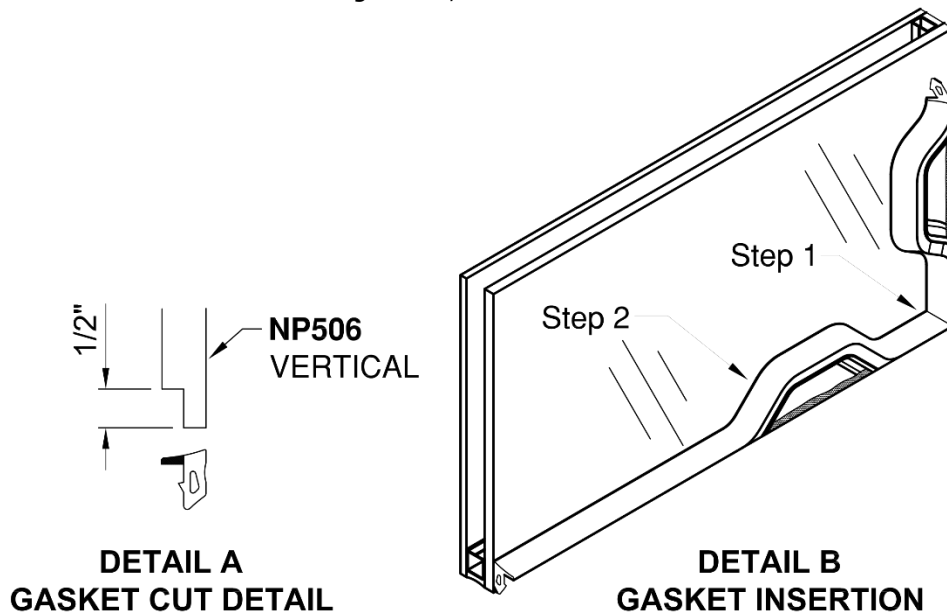

Figure 90: Wedge Gasket Notching and Installation
30.1 Verify the vertical Wedge Gasket is cut a minimum of 1/8" per foot plus 1" longer than the D.L.O. to provide adequate compression. Notch both ends of the gasket as shown in *Figure 90, Detail A*.
30.3.1 At the interior reglet, insert **NP506** Wedge Gasket around the perimeter, verticals first and the horizontals second. Verticals run-through at corners. Start Gasket first in the corners and then at the middle of the glass opening and work back out toward the corners. Reference *Figure 90, Detail B*.
30.3.2 At the exterior reglet, insert **NP556** Wedge Gasket around the perimeter, verticals first and the horizontals second. Verticals run-through at corners. Start Gasket first in the corners and then at the middle of the glass opening and work back out toward the corners. Reference *Figure 90, Detail B*.